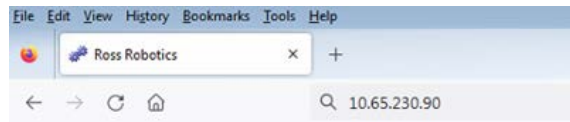

Figure 1 - Web UI of Robot When Entering the IP Address
2. Enter the robot's IP address into a web browser. Refer to **Figure 1**.